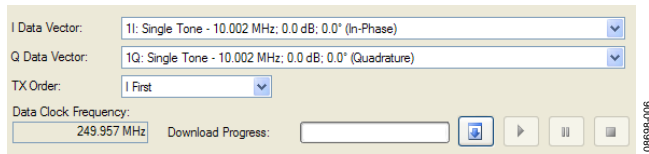

Figure 6. Loading DPG2 Vectors
7. In the lower portion of the screen, select **1I / 1Q: Single Tone** as the **Data Vector**, choosing the appropriate in-phase and quadrature data for the I and Q vectors, shown in Figure 6. The other options can be left at their default.